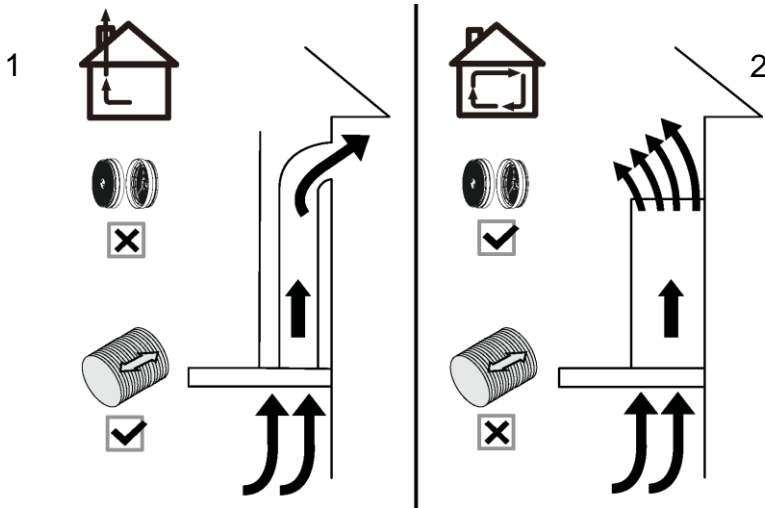

Fig. 3
a) Ventilation Mode. (see Fig. 3)